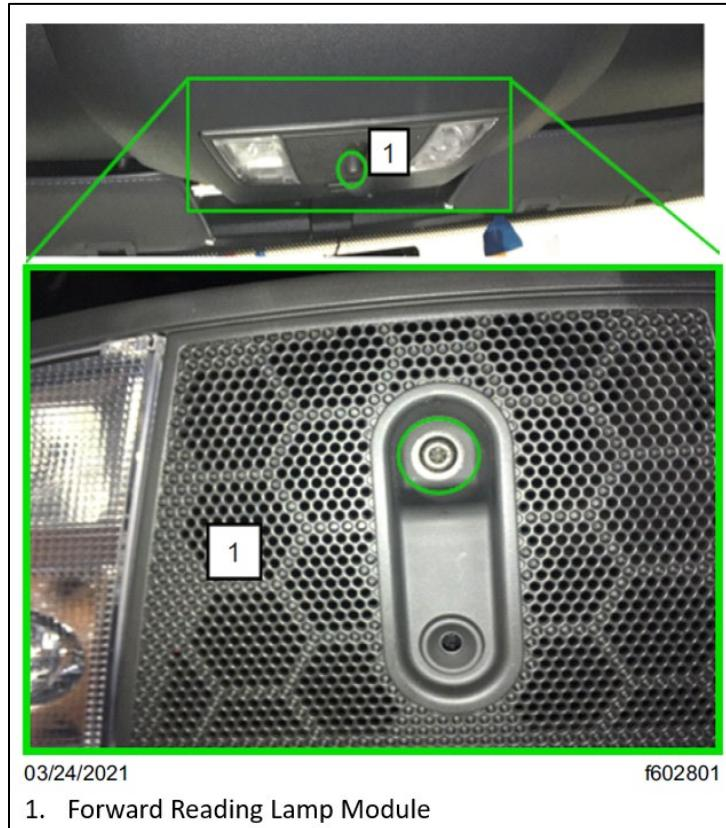

Fig. 14, Forward Reading Lamp Module
7.8. Position the reading lamp module on the center overhead storage unit, then install the fastener that attaches it to the center overhead storage bin. See Fig. 14. Tighten the fastener 5 to 7 lbf.ft (6 to 9 N.m).